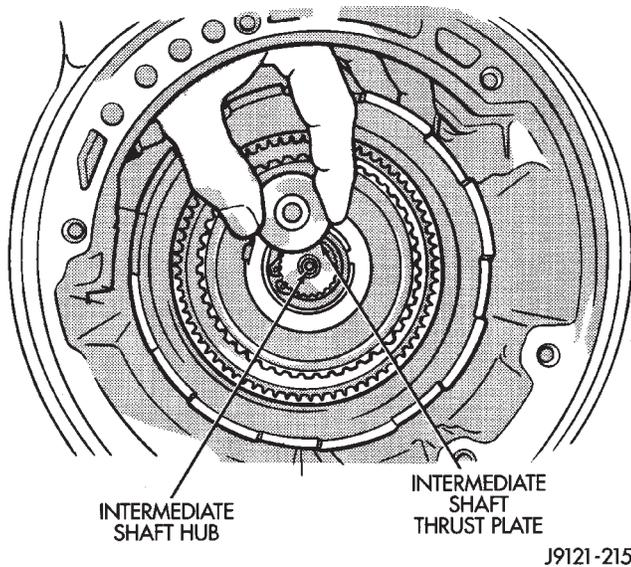

Fig. 124 Removing Intermediate Shaft Thrust Plate
(25) Remove output shaft thrust plate from intermediate shaft hub (Fig. 124).